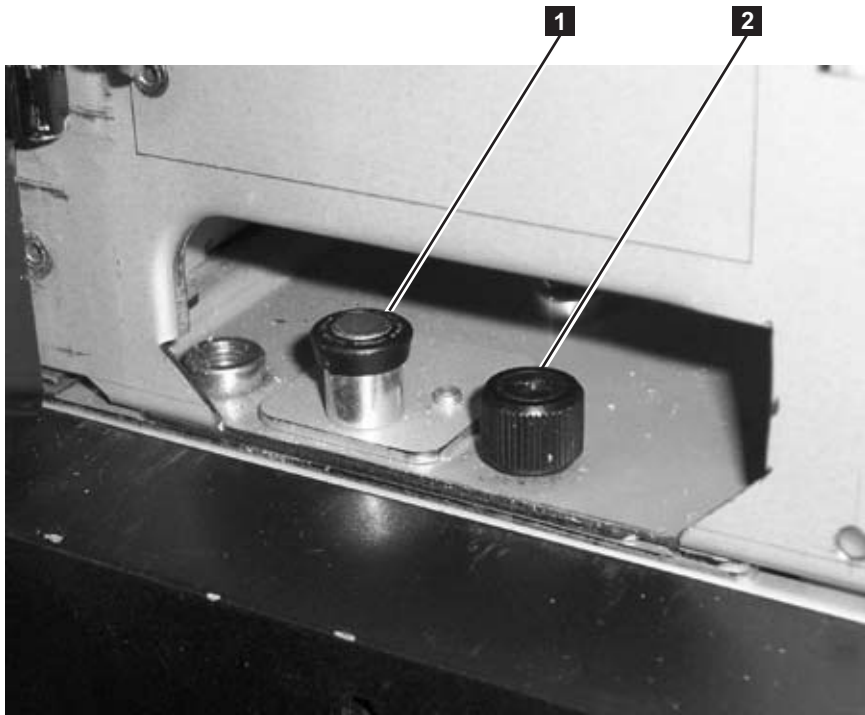

Figure 3-21. Module-to-Module alignment pin and front thumb screw
3. Ensure that the module-to-module alignment pin (**1** in Figure 3-21 on page 3-23) is in the raised position. If necessary, raise the pin and rotate it half a turn to lock it in the raised position.
9. Twist the upper module alignment pin (**1** in Figure 3-21 on page 3-23) to unlock it from the up position.
11. Tighten the front thumb screw (**2** in Figure 3-21 on page 3-23) and the thumb screw behind the I/O Station door to secure the front of the upper module to the lower module.